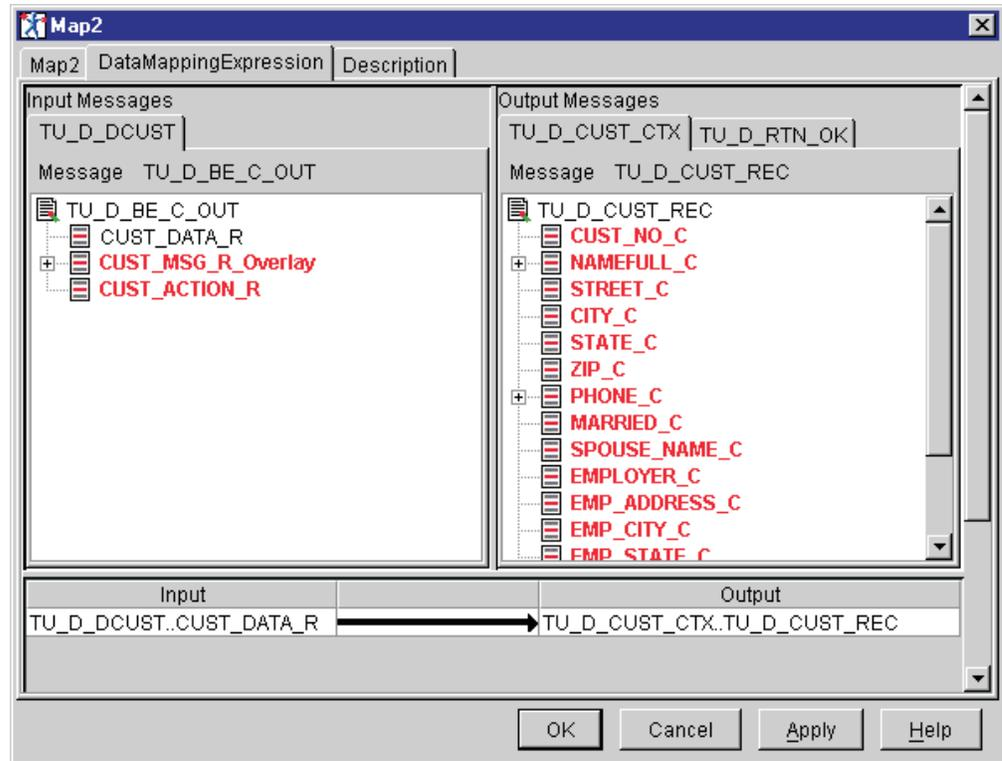
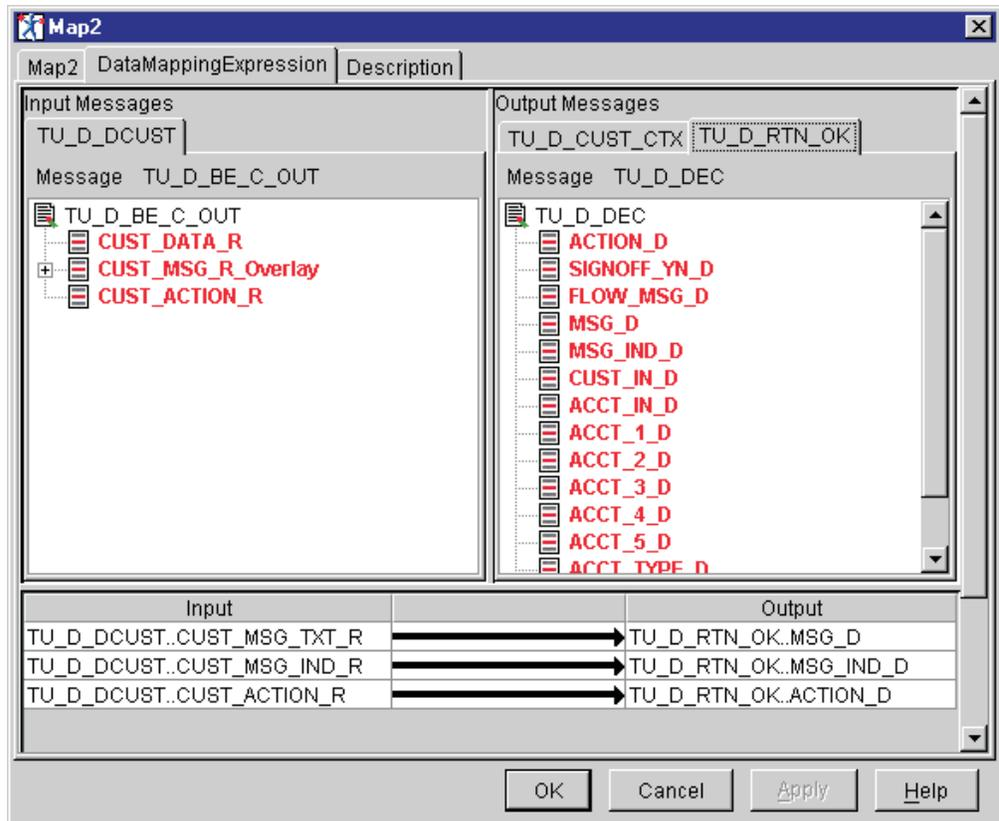

Figure 33. Mapping for Map2 node
Figure 34. Mapping for Map2 node
- 2) Perform the mapping for the Map2 node as listed in Table 12 and Table 13 on page 51. The mappings are shown in Figure 33 on page 51 and Figure 34 on page 52.